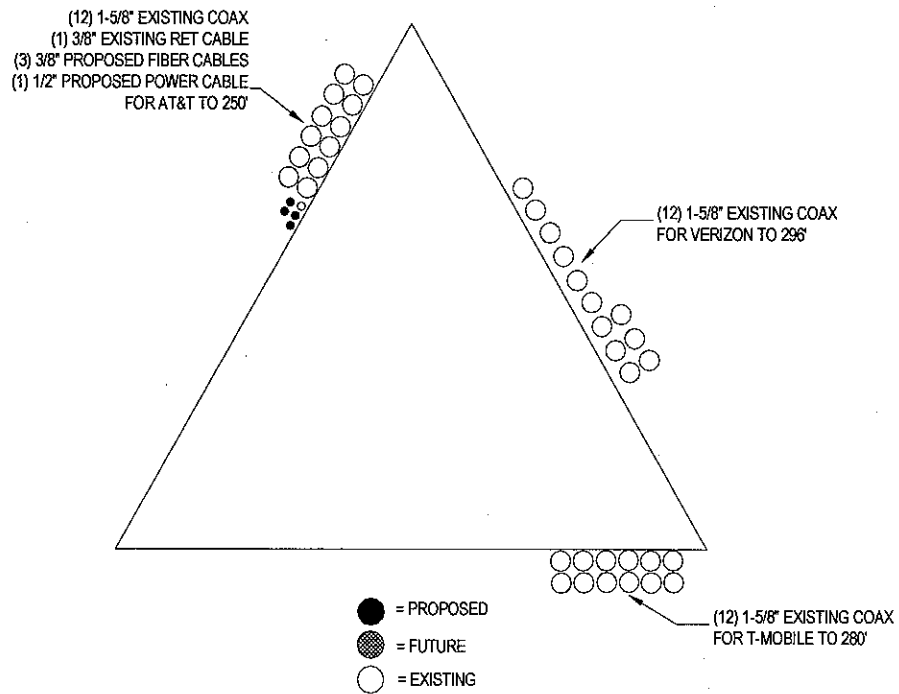

Figure 1 - Coax Layout
1. Coax lines must be installed as shown in **Figure 1**.